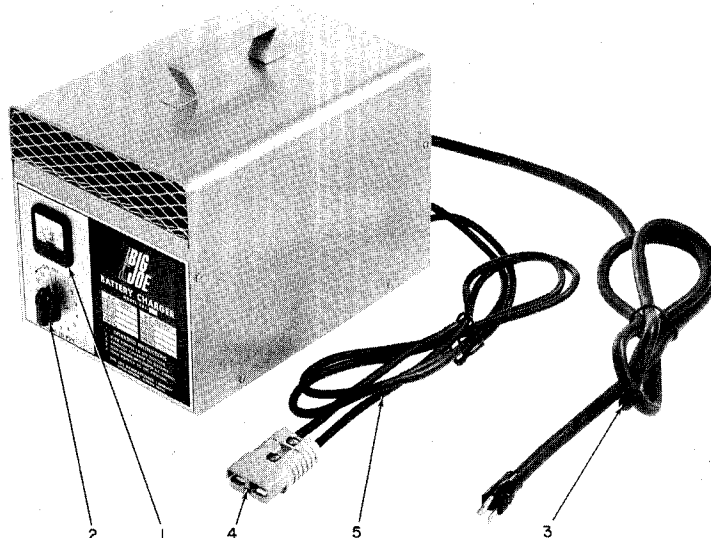

Figure 2-1. Controls and Indicators
1-13. The charging current flow is indicated on the ammeter (1, figure 2-1) during the charging cycle. Since the charging current is inversely proportional to the charge held by the battery, the ammeter actually indicates the current condition of the battery charge. The BAJ-60 will accomplish complete charging of a 12-volt, 360-ampere-hour (6 hour rate) industrial battery in approximately eight hours.
2-4. For general safety, do not place the BAJ-60 on the floor. When the equipment is in use, make sure that the ac line cord (3, figure 2-1) and dc output cable (5, figure 2-1) do not obstruct traffic.
c. Turn the BAJ-60 timer ON-OFF switch (2, figure 2-1) to OFF, and check that the ac line cord is not connected to power.
d. Connect the battery dc connector to the BAJ-60 dc connector (4, figure 2-1) being careful to match polarity.
e. Connect the ac line cord (3, figure 2-1) into a properly grounded 115-vac, 60-cycle, single phase power source.
g. Turn the timer ON-OFF switch (2, figure 2-1) to the ON position.